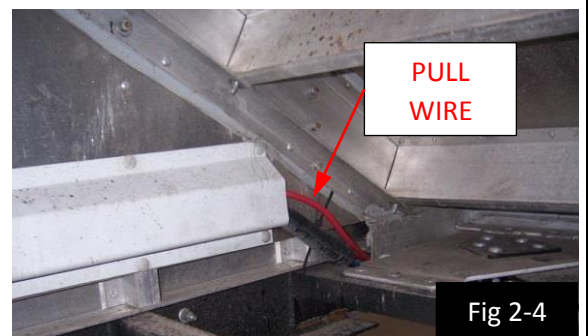

Fig 2-4
c. Slide the red wire through the covers to the tub rail. (See Fig 2-4)